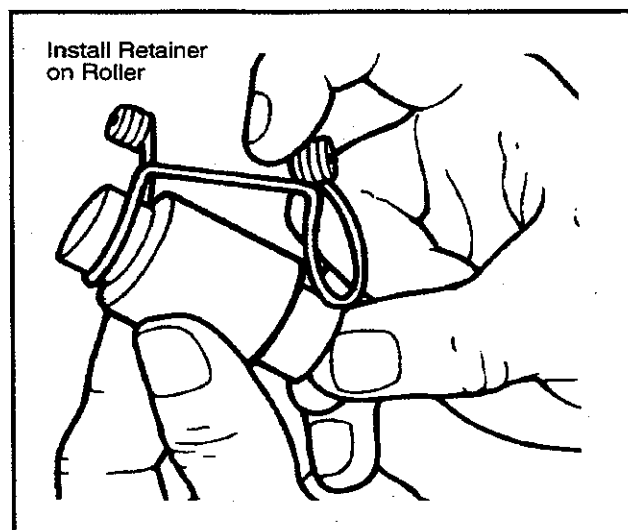

Figure 19—Roller Retainer
22. Assemble roller retainer on ends of roller assembly. (See Figure 19—Roller Retainer.)